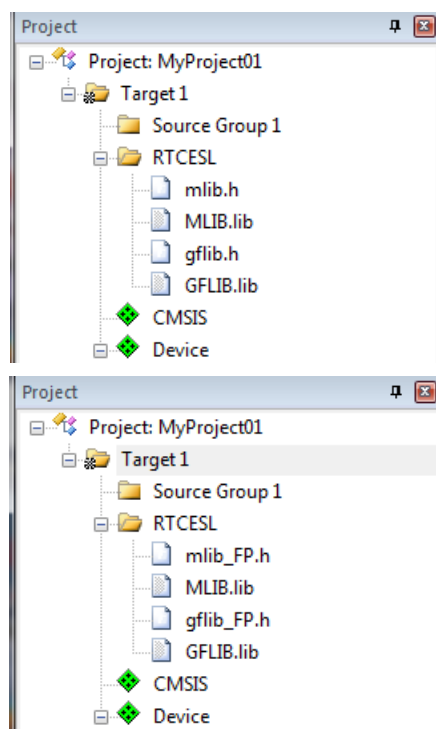

Figure 1-34. Project workspace
8. Now, all necessary files are in the project tree; see Figure 1-34. Click Close.